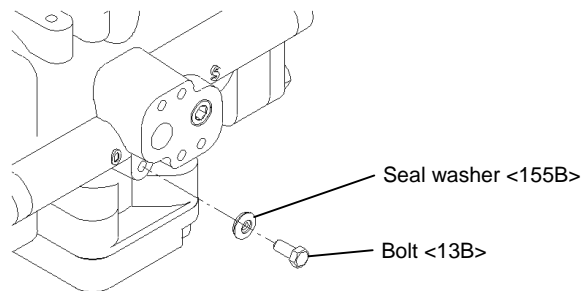

Fig.5
- (1) Make the air pressure the same as the atmospheric level.
- (2) Gradually loosen all air tubing fittings and ensure that the housing pressure has been equalized with the atmospheric level. Dismantle an actuated valve from the pipeline and disassemble an actuator from the valve.
- (3) Unthread a hexagon headed bolt and a seal washer near the solenoid valve mounting pad. It is possible that piston O-rings are worn and cause air leakage and pressurize the interior of the housing. Therefore, before working on disassembly of an actuator, gradually loosen the hexagon headed bolt and check that the housing pressure has been equalized with the atmospheric level ( Fig.5 ).